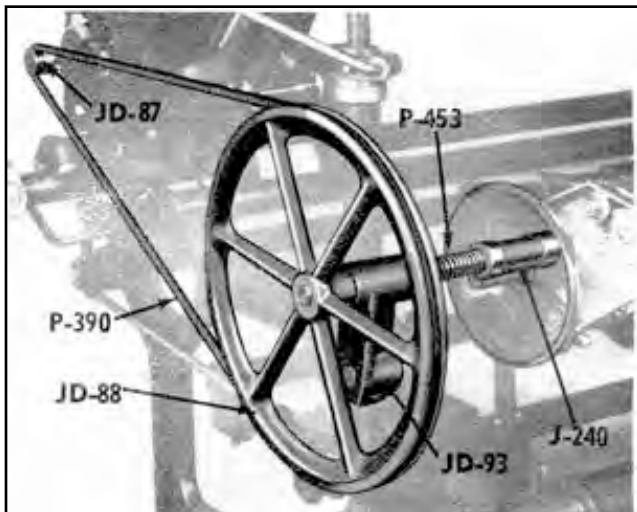

Fig. 21
97. The Reconditioner is supplied with the Model 900 Ideal Sharpener to provide a means of "lapping-in" mowers after they have been ground. (See figure 21). While the reconditioner is not essential to complete a good grinding job, it has many applications on different types of mowers. We will explain when and how it can be used to advantage.